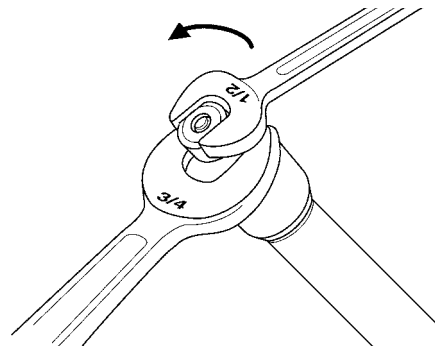

Figure 13. Remove end plug from fuse cartridge.
1. Use 3/4 inch and 1/2 inch wrenches to remove end plug (see Figure 13).